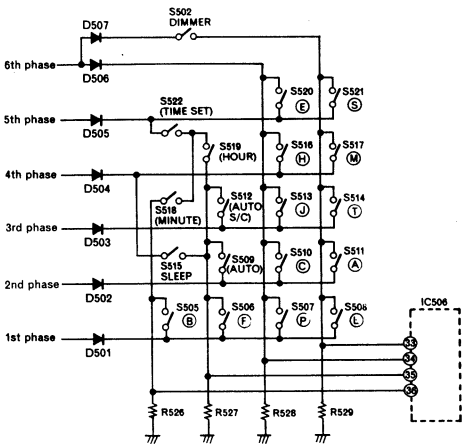

Fig. 10
The pushbutton switch is designed to operate the matrix circuit which performs detection depending on what phase of the 6-phase signal generated by IC505 is input to which of the 4 input terminals. That is to say, the operation buttons as shown in Fig. 10 are connected so as to short-circuit one 6-phase signal and one of terminals (33) - (36). (For example, when button (B) of the world clock is pressed, the 1st phase of the 6-phase signal is input to terminal (36) of IC6.) When more than 2 operation buttons are pressed, the first pressed has priority; when more than 2 buttons are pressed simultaneously, no operation takes place. A program is provided to prevent mis-operation because of chattering or noise. The dimmer switch is assumed to be ON when the 6th phase signal is input to terminals (33) and (34) simultaneously. Other matrix switch signals than the dimmer switch accept the operational input only when the dimmer display is in the clock display mode. Because of this, the display does not change when these buttons are pressed in the frequency display mode.
A program to determine the output of the matrix switch circuit runs when this unit is set to the clock display mode. When the auto button (S512) as shown in Fig. 10 is pressed, the 3rd phase signal is input to terminal (35) of IC506 and the display indicates the auto-set time. When the time set button (S522) and Hour button (S519) or Minute button (S518) are pressed simultaneously, the 5th phase signal is input to terminal (35) or terminal (36) and the auto-time varies every 0.3 sec. When the auto S/C button (S509) is pressed after the autotime is set, the 2nd phase signal is input to terminal (35), the auto-function operates and the present time and the auto-set time are compared every 1/16 sec. When the present time and the auto-set time are the same, the auto-sleep output terminal (17) is set to H level to turn Q521 ON and operates the relay. When this relay operates, power is applied to all circuits except the local oscillator circuit and sound is output. The local oscillator is supplied with power regardless of the standby switch when the power switch is turned ON, so stable reception is obtained at the auto-set time. Since the auto-on time is 60 minutes, when auto-on starts, 1/16 sec is deducted from the 60 minute timer every time the time is updated by 1/16 sec. When this 60 minute timer reaches "0", the auto-on output is set to L level and no sound is output. When the auto-set button is pressed before auto-on after auto-setting or during auto-on, the auto-function is cancelled. The auto-on set time, however, is stored as long as time-setting is not done. When the auto-function is operating, the auto-sleep indicator of the display stays lit until the auto-function is cancelled or until the 60 minute operation is complete after the auto-time setting. When SLEEP is set during auto-setting, the SLEEP indication
When this unit is set to the CLOCK display mode, the program to determine the output of the matrix switch circuit owns. When the Sleep button (S515) as shown in Fig.10 is pressed, the 4th phase signal is input to terminal (35) and the Sleep function is set for 60 minutes. At the same time, the Auto-Sleep indicator flashes every 2 seconds to show that the Sleep function is in operation. 1/16 sec is deducted from the internal 60 minute timer every time the time is updated by 1/16 sec, and when the timer reaches "0", the Auto/Sleep output is set to L level. The Sleep function is cancelled when the Sleep button is pressed during Sleep setting. When Sleep is set during Auto-On, since Sleep takes precedence, Auto-On is automatically cancelled, sound is output for 60 minutes starting at the time sleep is set. However, it is not cancelled during Auto-setting (when the Auto-On time is set to the time after Sleep operation is completed).